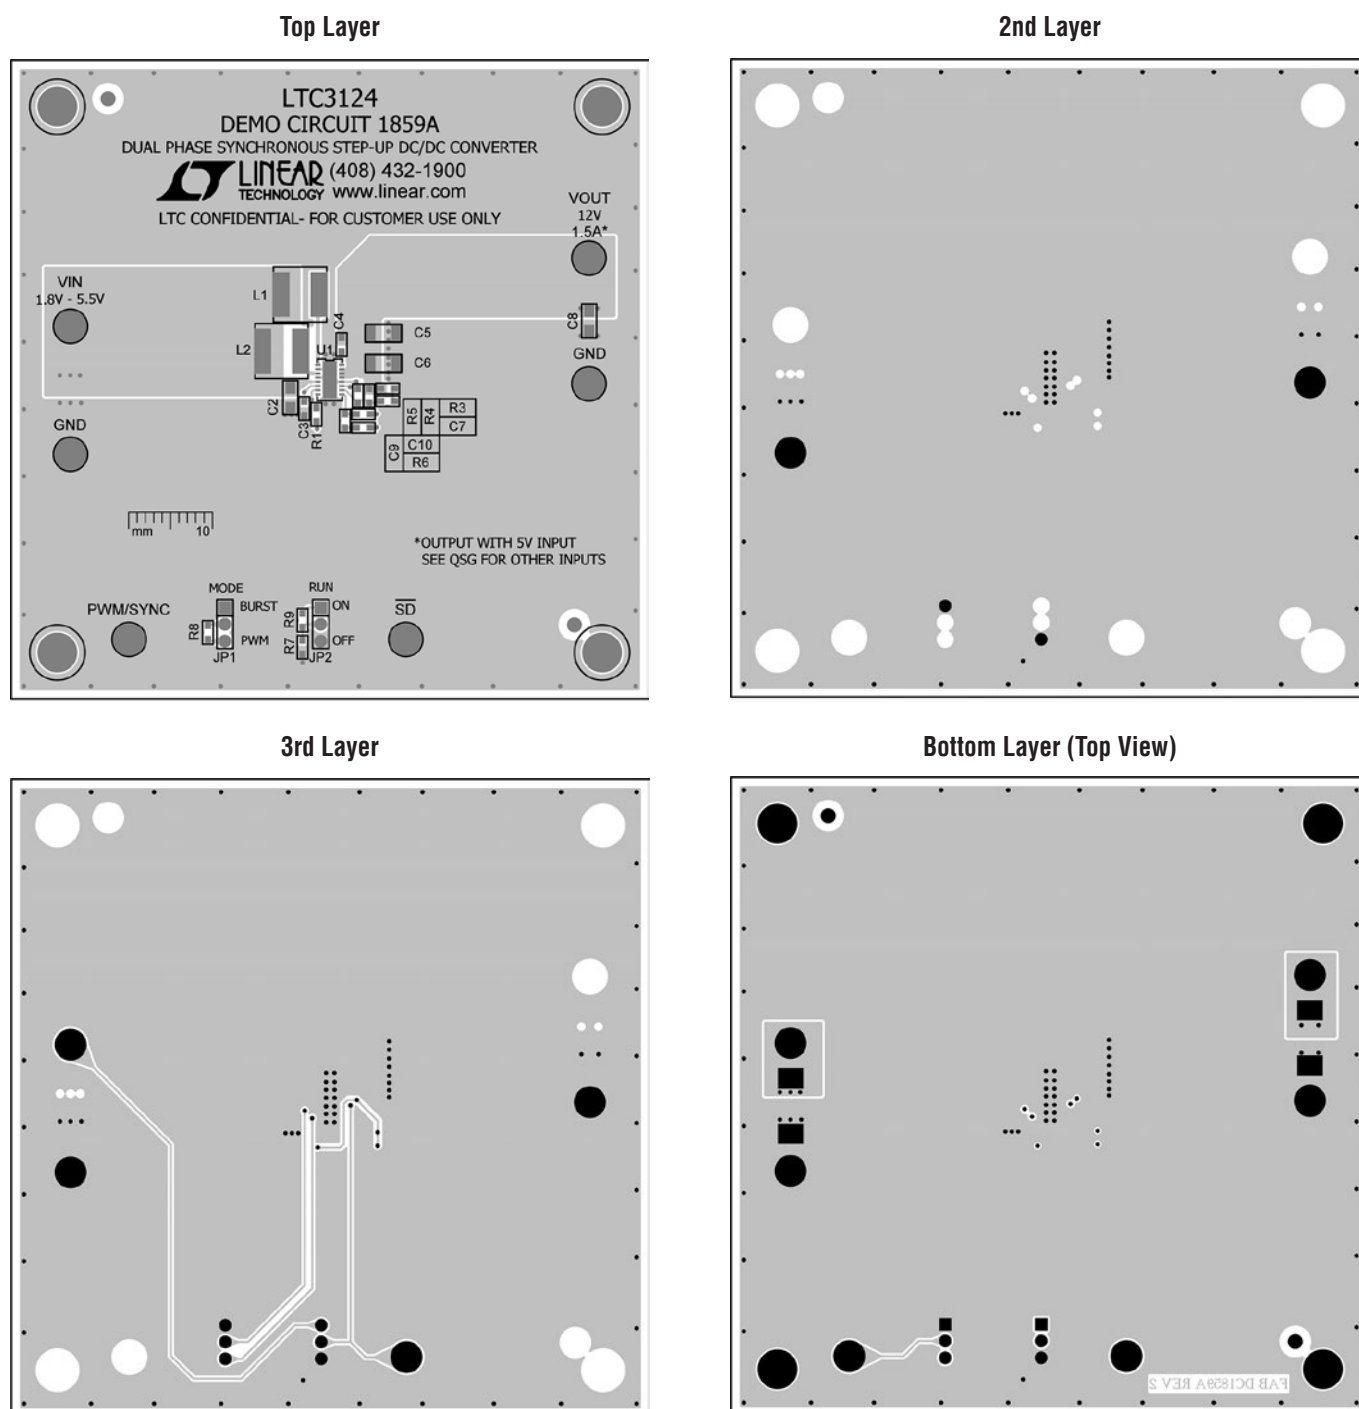

Figure 6. Example PCB Layout
The LTC3124 switches currents as high as 4.5A at high frequencies. Special attention should be paid to the PCB layout to ensure a stable, noise-free and efficient application circuit. Figure 6 presents the LTC3124's 4-layer PCB demo board layout (the schematic of which may be obtained from the Quick Start Guide) to outline some of the primary considerations. A few key guidelines are outlined below:
1. A 4-layer board is highly recommended for the LTC3124 to ensure stable performance over the full operating voltage and current range. A dedicated/solid ground plane should be placed directly under the  $V_{IN}$ ,  $V_{OUTA}$ ,  $V_{OUTB}$ , SWA, and SWB traces to provide a mirror plane to minimize noise loops from high  $di/dt$  and  $dV/dt$  edges (see Figure 6, 2nd layer).
2. All circulating high current paths should be kept as short as possible. Capacitor ground connections should via down to the ground plane in the shortest route possible. The bypass capacitors on  $V_{IN}$  should be placed as close to the IC as possible and should have the shortest possible paths to ground (see Figure 6, top layer).
- Crossover connections should be made on inner copper layers if available. If it is necessary to place these on the ground plane, make the trace on the ground plane as short as possible to minimize the disruption to the ground plane (see Figure 6, 3rd layer).